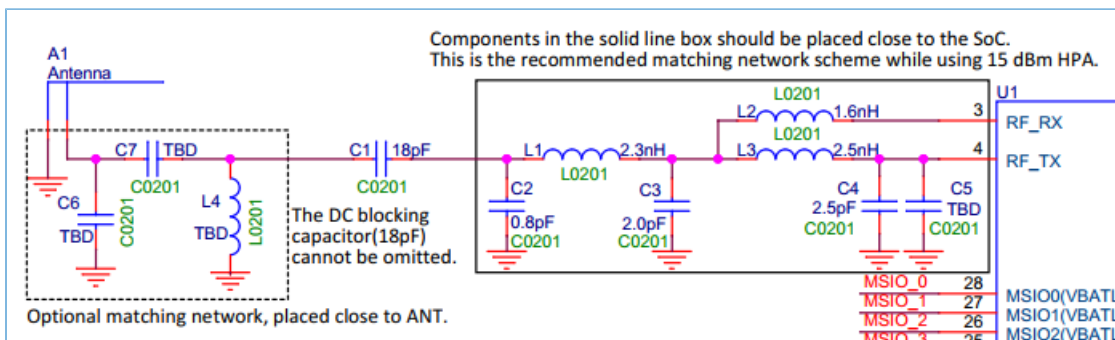
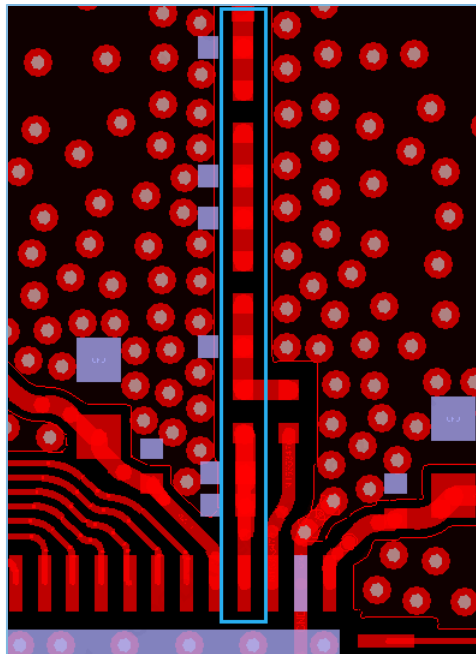

Figure 3-11 RF scheme
Figure 3-18 RF port PCB layout
Components in this matching network should be placed as close to the RF pins (RF\_RX and RF\_TX) as possible. Try to place the first component no further than 1 mm from the RF pin. Figure 3-18 shows the PCB layout of the RF port.
- Placing RF matching components on the same line with RF\_TX is of high priority, as shown in the blue box in Figure 3-18. Make sure the components are placed by strictly following the RF scheme in Figure 3-11.
- Make sure no trace is routed on the reference ground beneath the VBAT\_RF/VDD\_RF/RF\_TX/RF\_RX networks near the RF port, as shown in Figure 3-18. A complete and clean reference ground helps reduce radiation.